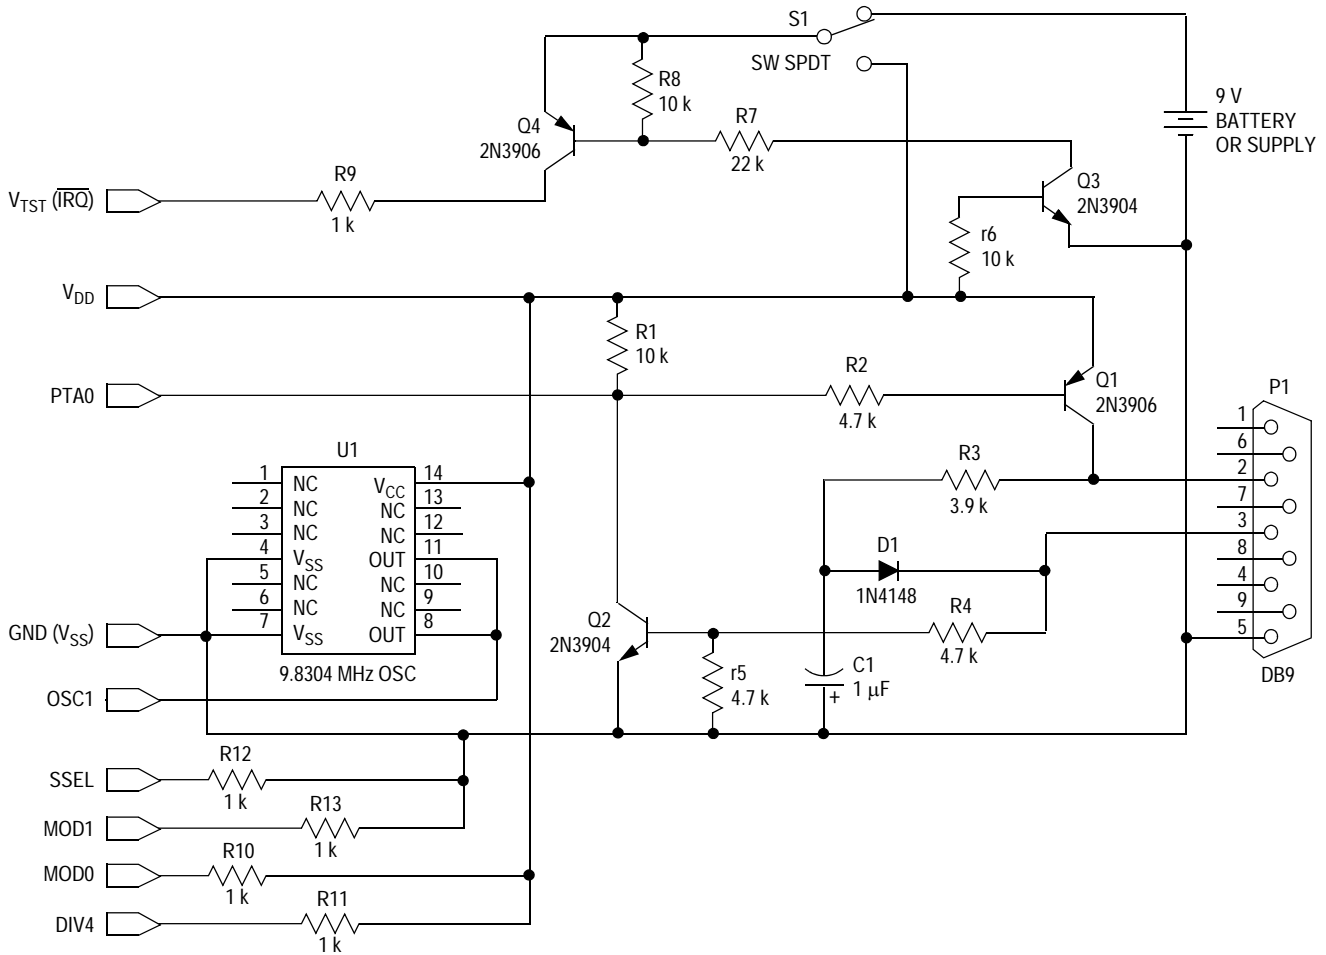
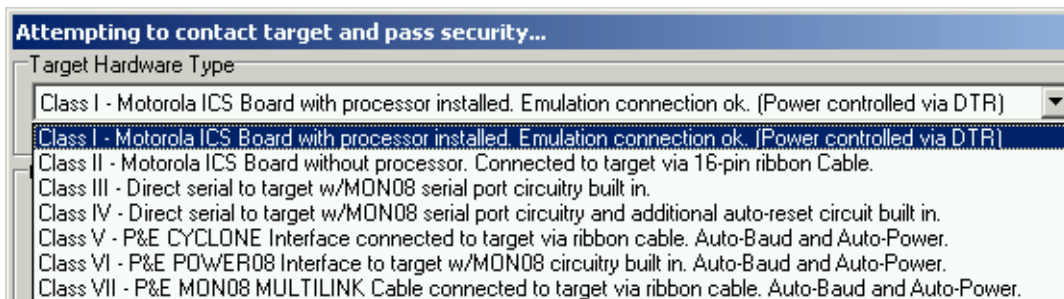

Figure 7. Low-Cost MON08 Interface
Figure 10. Hardware Selection in P&E PROG08SZ
Another way to get the  $V_{TST}$  voltage is by switching a 9 V battery or power supply to the  $\overline{IRQ}$  pin. An example of a switching circuit is shown in **Figure 7** below. The supply voltage should be limited to 9 V to meet the  $V_{TST}$  spec. The 1 k $\Omega$  series resistor (R9) is a simple current limit for the  $V_{TST}$  supply.
**Figure 7** shows another implementation of a custom MON08 interface. This circuit was modified from a low-cost RS232 interface found on several Internet sites. The central part of the circuit, composed of transistors Q1 and Q2, diode D1, capacitor C1, and resistors R1 – R5, is a simple level shifter between the 0 V and 5 V levels on the PTA0 pin and the –8 V to +8 V levels from the PC's serial port. This circuit actually transmits –5 V to +5 V levels due to the negative pull down at C1 and  $V_{DD}$  pullup at Q1. Q1 and Q2 can be any general-purpose PNP and NPN transistors, respectively. Resistor R3 can be trimmed to provide the best negative voltage swing for the transmitter signal at the DB9's pin 2.
The bottom part of the circuit in **Figure 7** is an optional way to route the appropriate levels for monitor mode selection to a target system that requires the external bias.
P&E's ICS08 software packages contain the WinIDE integrated development environment, which pulls together an assembler, in-circuit simulator, memory programmer, and in-circuit debugger. The programmer and debugger work with any MON08 hardware interface, as shown in the target hardware type menu in **Figure 10**. Class III is used with the MON08 interfaces in **Figure 4**, **Figure 5**, and **Figure 7**, above. Classes V and VII are used with the Cyclone and Multilink pods, respectively.
6. From Target Hardware Type, select Class III (see Figure 10).
Here are the main steps in programming the FLASH with CodeWarrior in normal monitor mode and starting a debug session. This example was built with PEDebug as the project stationery and QT4 absolute assembly. This example also uses the low-cost MON08 circuit from Figure 7 as the MON08 pod.
7. Select the appropriate class in Target Hardware Type (Class III for low-cost MON08 circuit from Figure 7) and baud rate.